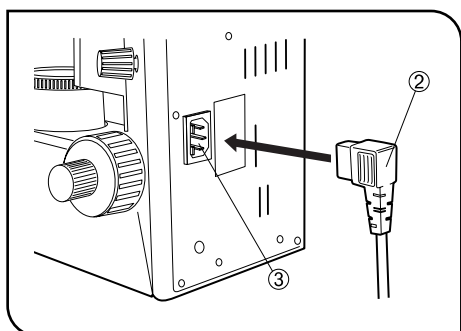

Fig. 31
8 Connecting the Power Cord (Figs. 31 & 32)
1. Connect the power cord plug ② to the AC receptacle ③. (Fig. 31)